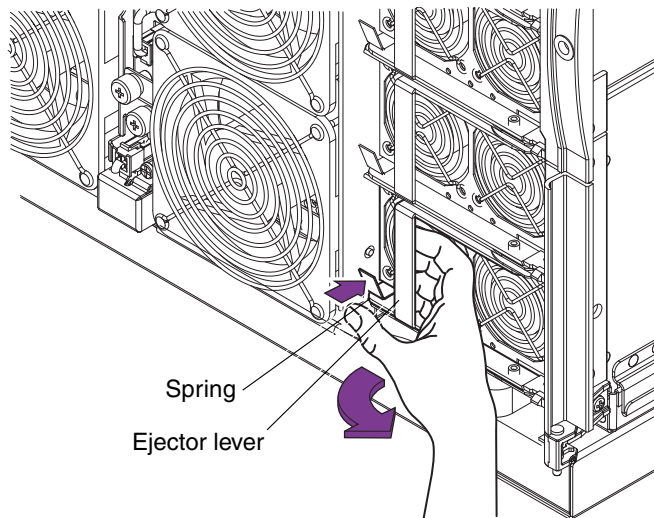
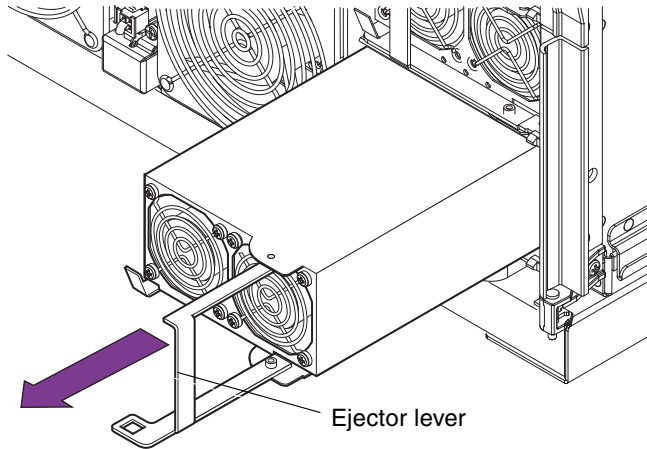

FIGURE 7-2 Unlatching a Power Supply
FIGURE 7-3 Removing a Power Supply
4. Unlatch the power supply (FIGURE 7-2 and FIGURE 7-3).
3. Extend the ejector lever from the power supply (FIGURE 7-3).
4. Push the power supply fully into its slot and close the ejector lever (FIGURE 7-3).